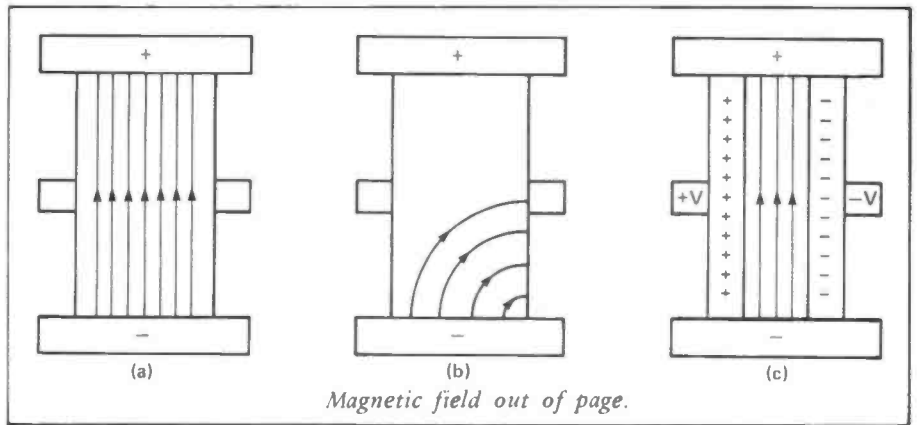

Figure 3:
The basic theory of the Hall Effect is an application of Lorentz forces. A charge travelling through a magnetic field follows a curved path - and the amount of curvature is proportional to the current and magnetic field strength with the direction of curvature determined by the vector directions. *Figure 3.*
Graphically the Hall Effect is shown in *Figure 3*, where diagram (A) shows electron flow in the absence of any external forces. Application of a magnetic field causes Lorentz forces to curve the path of the electron flow as shown in (B). This attempt at curvature causes a build up of charges at a position perpendicular to the original direction of electron flow with a corresponding build up of 'holes' on the opposite side.